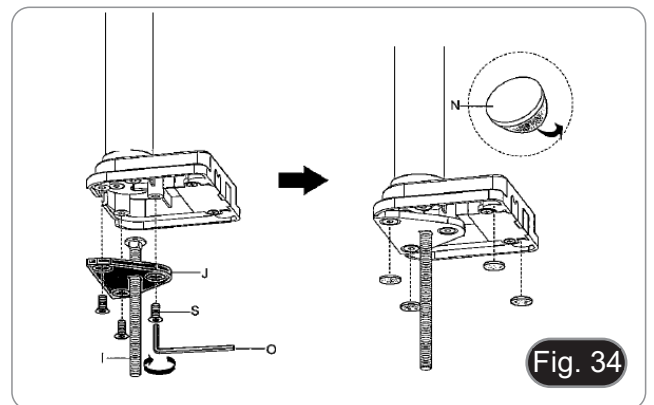

Fig. 34
3. Insert the screw (I) into the fixing plate (J).
4. Tighten the fixing plate using the three screws (S). (Fig. 34)
5. Stick the rubber dampers (N) to the table clamp.